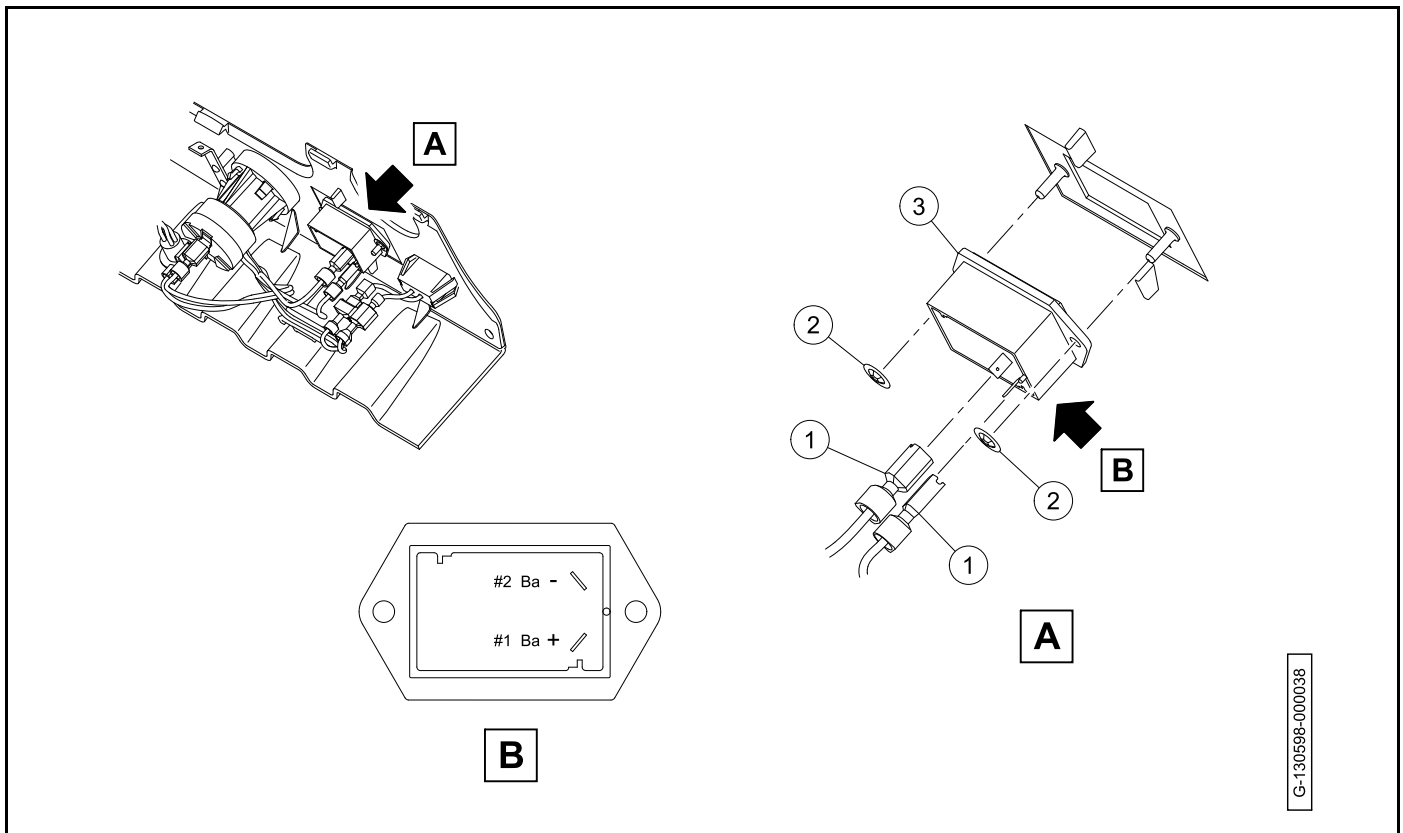

Figure 13-1
3. Disconnect the battery condition indicator wires (1) (**Figure 13-1**).
4. Remove the push-on retainers (2).
5. Remove the battery condition indicator (3).
1. Install the battery condition indicator (3) with the push-on retainers (2) (**Figure 13-1**).